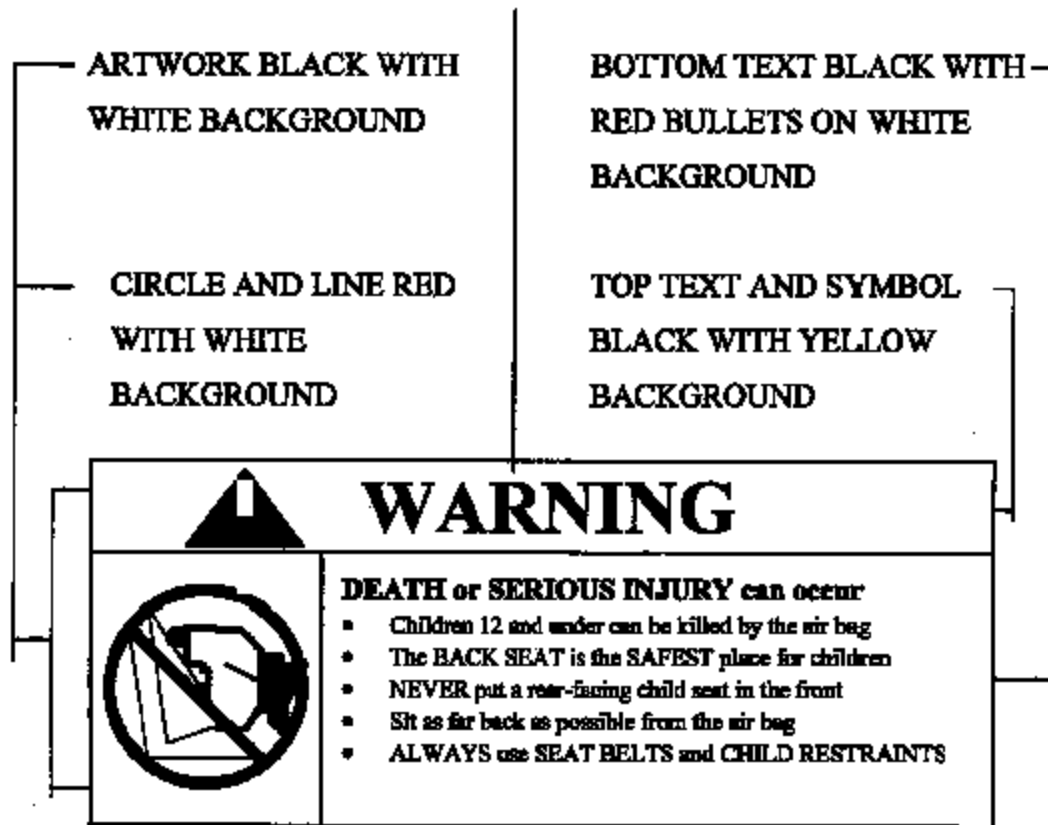

Figure 6a
- 4.2 Does the label conform in content (vehicles without back seats may omit the statement: "The BACK SEAT is the SAFEST place for children.") (S4.5.1(b)(2)(v)) to the label shown in either Figure 6a or 6b as appropriate at each front outboard seating position with an air bag? (S4.5.1(b)(2))**
- 4.2.2.1 Does the label conform on content to the label shown in either Figure 6a or 6b as appropriate?**
- 4.2.2.2 Does the label conform in content to the label shown in Figure 6a where the label can be modified to omit the pictogram and the message may read:**